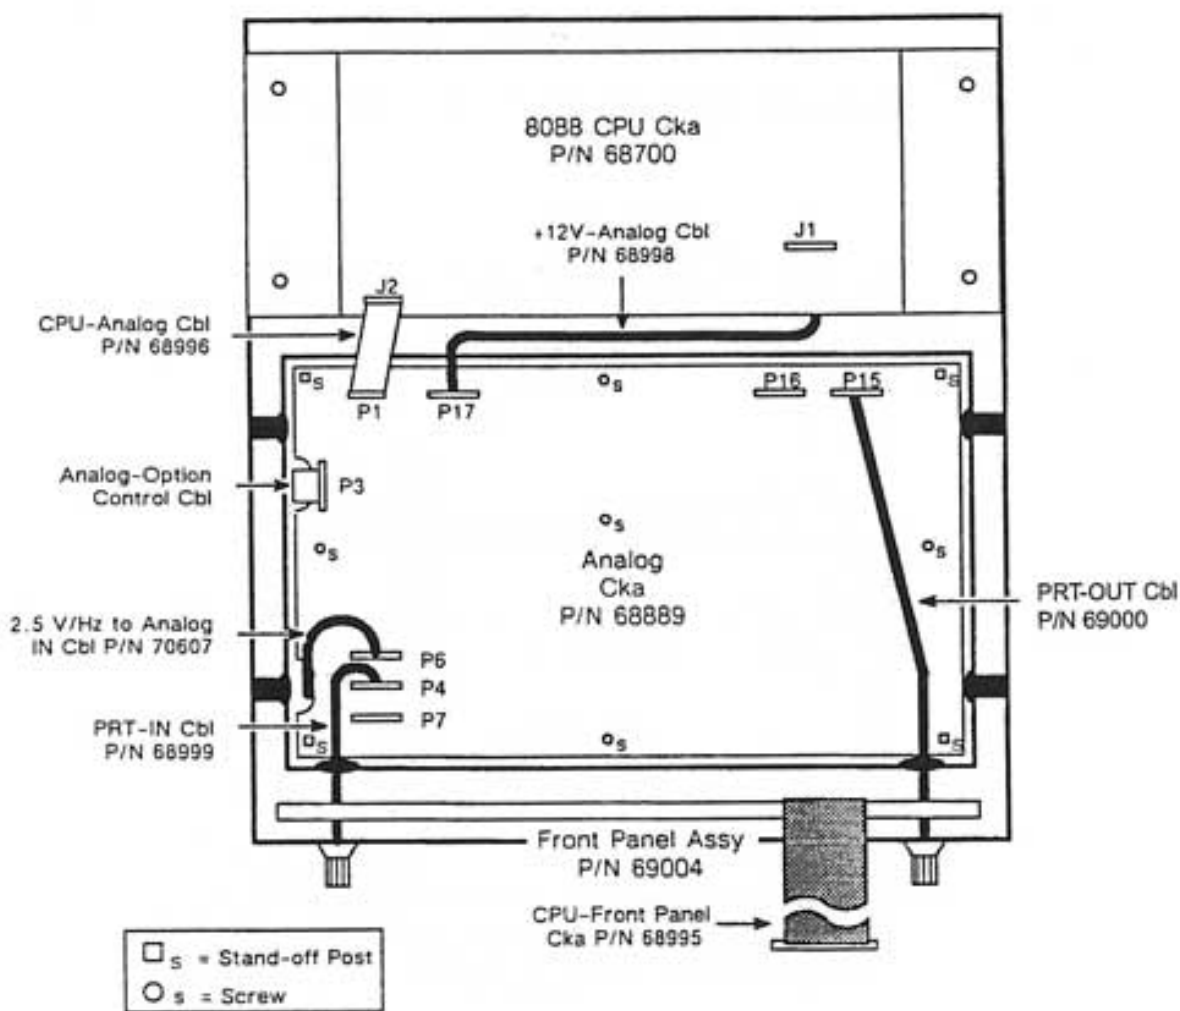

Figure 6-8. Top View with Guard Box Top Removed
5. Refer to Figure 6-8. Remove the following cables from their respective connectors:
7. Remove the four stand-off posts and five screws that secure the Analog Cka to the Guard Box. Refer to Figure 6-8. After the Analog Cka is loose, use a bladed screwdriver to remove all transformer cables from the bottom of the Analog Cka. **DO NOT** pull on the wires to remove the connectors or they may be damaged. Refer to detail A in Figure 6-9.
14. Refer to Figure 6-8. Install the Guard Box into the chassis and connect the cables as follows: